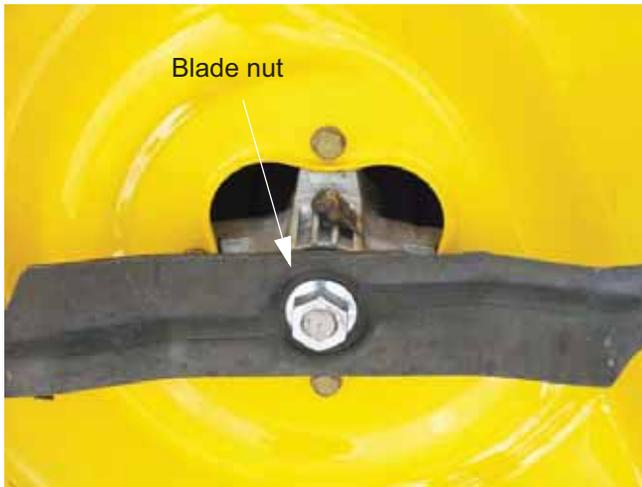

Figure 8.3
3. Remove the blade nuts using an impact wrench and a 15/16" socket. See Figure 8.3.